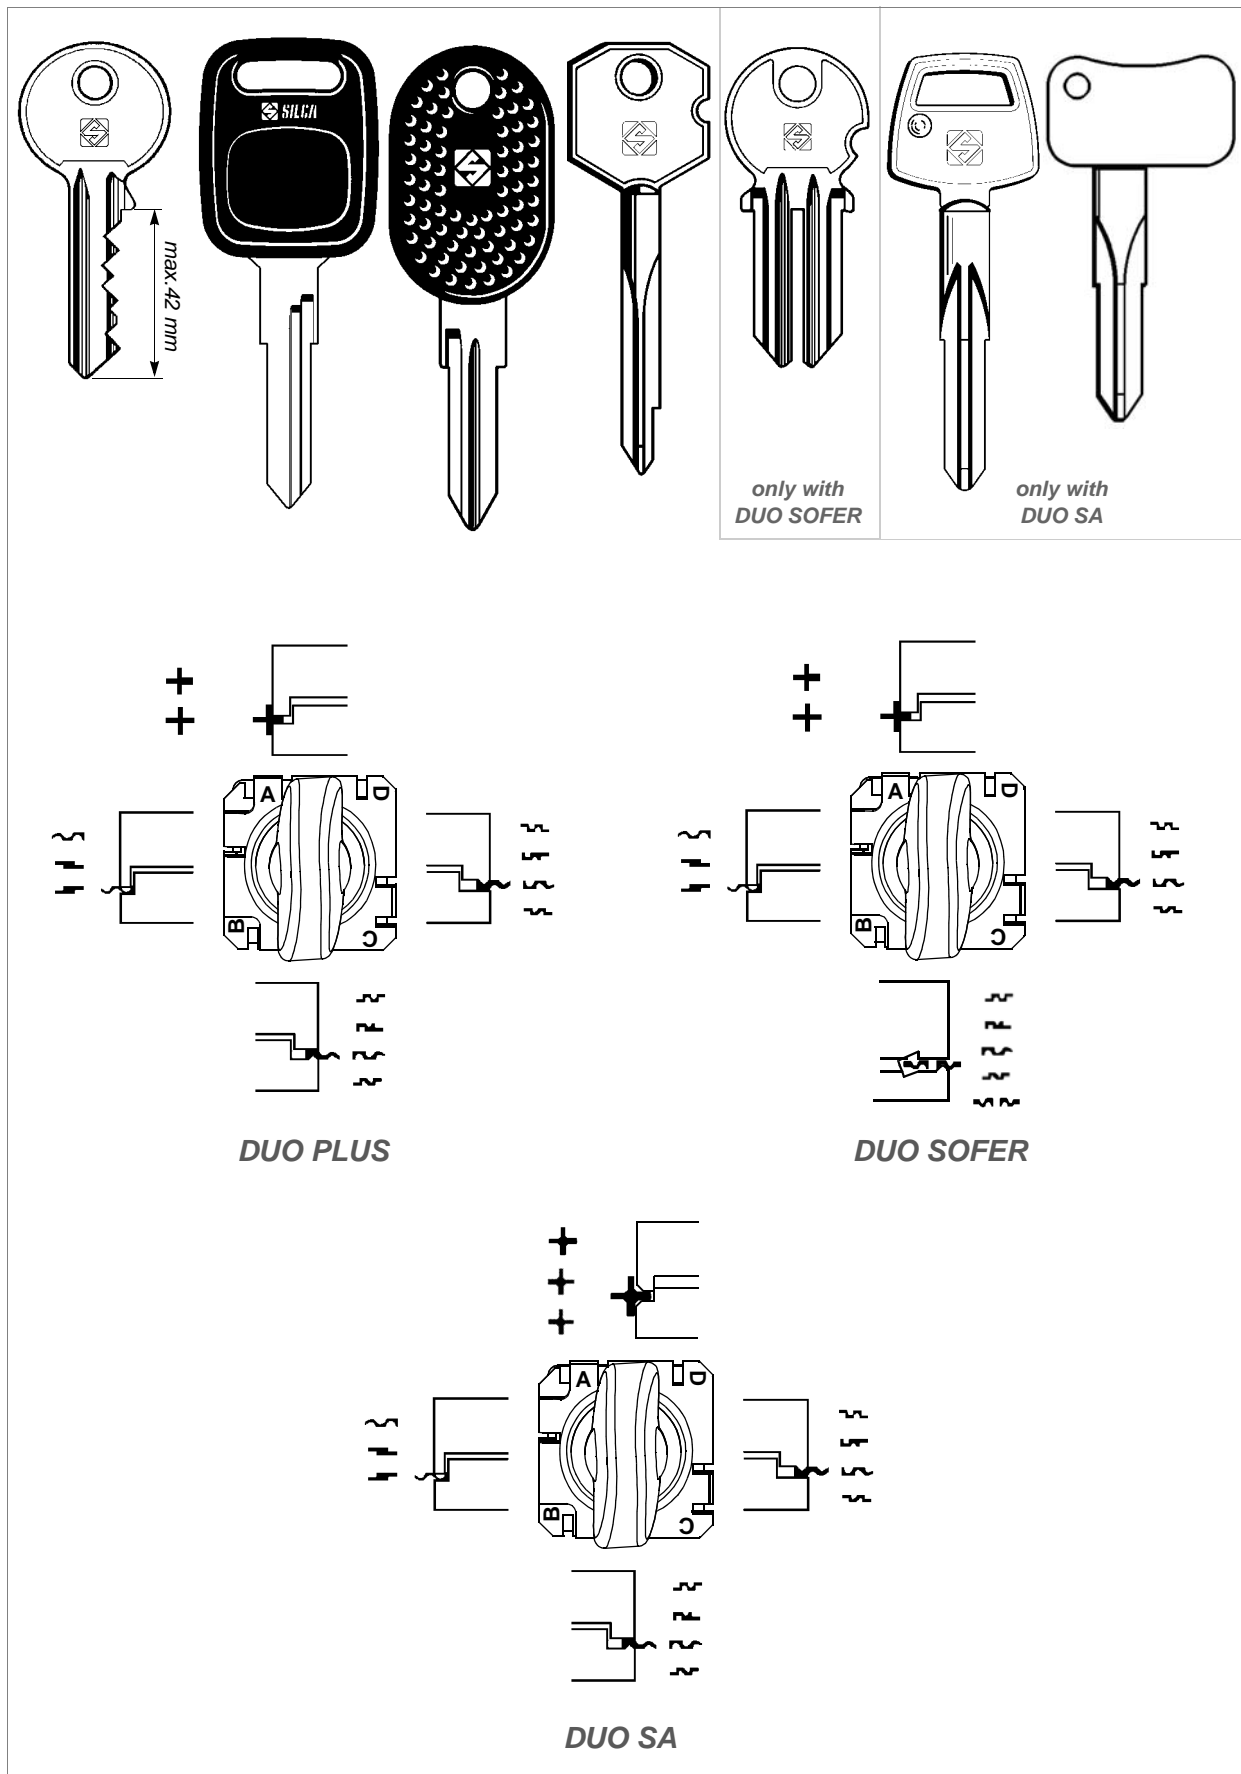

Fig. 32
- 1) Turn the clamps to find the appropriate side for securing the key (fig. 32).
- 2) Loosen the knobs (E) by a couple of turns.
- **Side A of the clamp:** for keys to be fitted on their backs, keys with double cuts without groove and cruciform keys (fig. 32);
- **Side B of the clamp:** for keys placed on their backs and having cuts with a depth of less than 3,9 mm (fig. 32);
- **Side C and D of the clamp:** for keys to be cut on both sides and locked on the groove (fig. 32).